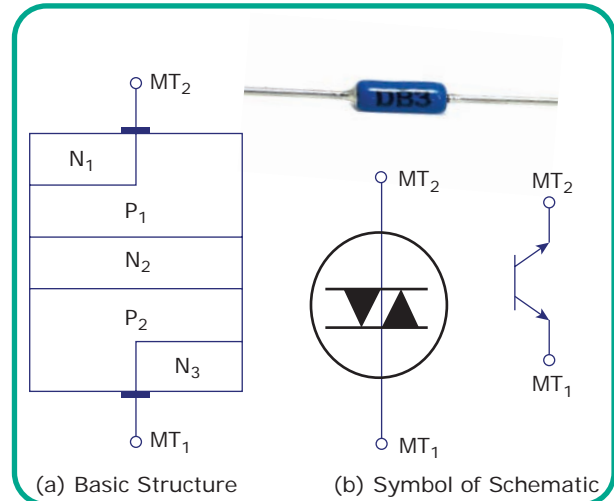

Figure 5.11 Basic Structure and Symbol of DIAC
Construction: SCR consists of four semiconductor layers forming a PNPN-structure as shown in the Figure 5.11. There are three junctions namely J_1, J_2, J_3 . SCR have three leads, they are anode (A), cathode (K) and gate (G). The end P-layer acts as anode, the end N-layer acts as cathode and the P-layer nearer to cathode acts as gate.
Construction: Figure 5.11 shows the structure and symbol of DIAC. The DIAC is a two terminal device, namely MT_1 , MT_2 . It is a combination of parallel semiconductor layers ($P_1N_1P_2N_2$, $P_2N_1P_1N_3$) connected in anti-parallel. The DIAC can be configured to conduct in both the directions. The structure of DIAC is similar to transistor, but no terminal attached to the base layer.